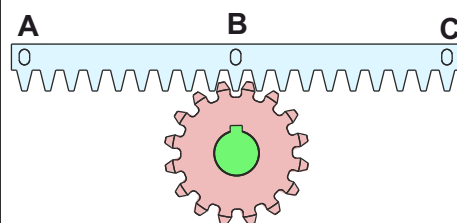
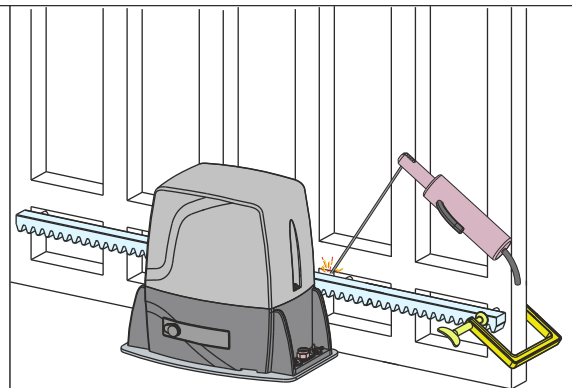

Fig. 9
Fig. 10
- 7.3. Lean the gear rack element on the toothed pinion of the operator in parallel to the ground slideway of the gate, as shown in Fig. 9 and electrically weld the central pawl **B** to the gate structure - Fig. 10. Manually move the gate until pawl **C** is placed in front of the pinion and fix it through electric welding. Repeat the same procedure for pawl **A** after having placed it in front of the pinion;